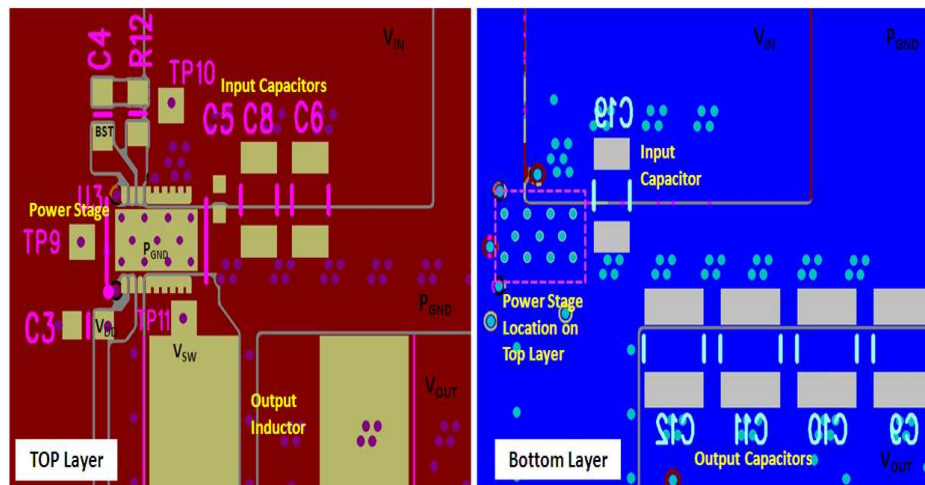

Figure 17. Recommended PCB Layout (Top Down View)
- The placement of the input capacitors relative to  $V_{IN}$  and  $P_{GND}$  pins of CSD97376Q4M device should have the highest priority during the component placement routine. It is critical to minimize these node lengths. As such, ceramic input capacitors need to be placed as close as possible to the  $V_{IN}$  and  $P_{GND}$  pins (see Figure 17). The example in Figure 17 uses 1 × 1-nF 0402 25-V and 3 × 10-μF 1206 25-V ceramic capacitors (TDK Part # C3216X5R1C106KT or equivalent). Notice there are ceramic capacitors on both sides of the board with an appropriate amount of vias interconnecting both layers. In terms of priority of placement next to the power stage C5, C8 and C6, C19 should follow in order.
- Use the smallest drill size allowed in your design. The example in Figure 17 uses vias with a 10-mil drill hole and a 16-mil capture pad.